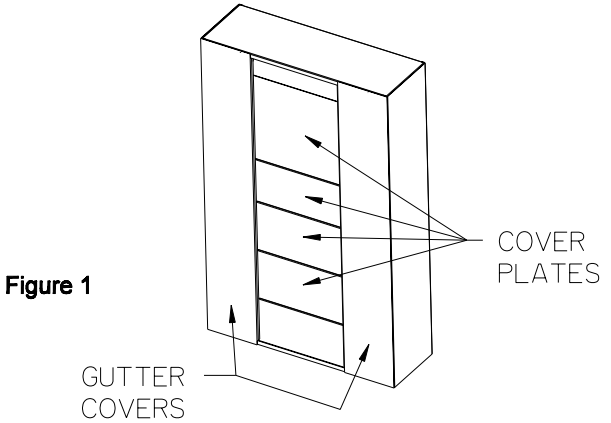

Figure 1
- 2. Reference fig. 1 - Remove the (2) gutter covers and cover plates.